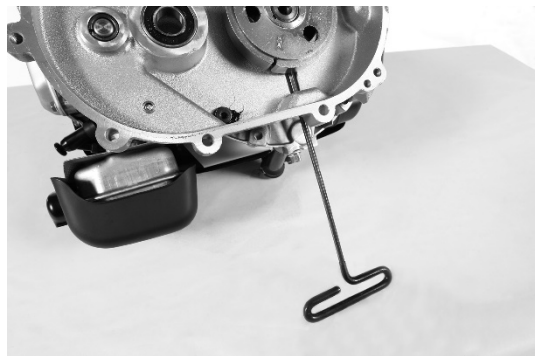

FIGURE 37
5. Using 1/8 inch (3.2 mm) Allen wrench, loosen two set screws retaining rotor/shoe assembly to engine crankshaft. FIGURE 37